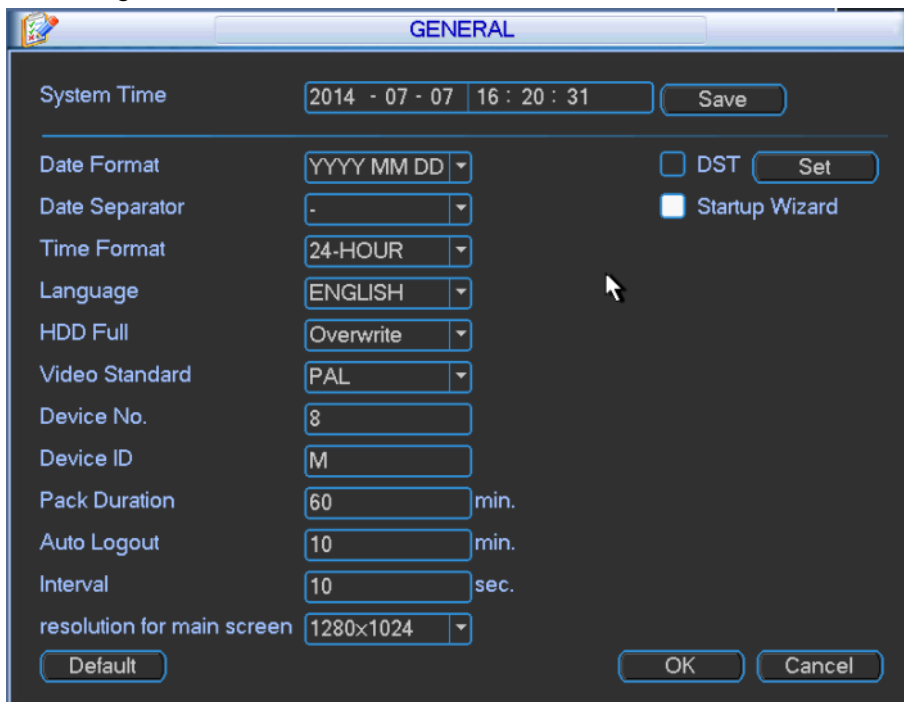

Figure 3-29
Step 1 In main menu, select "Setup>General", and the system displays "General" interface, as shown in Figure 3-29.